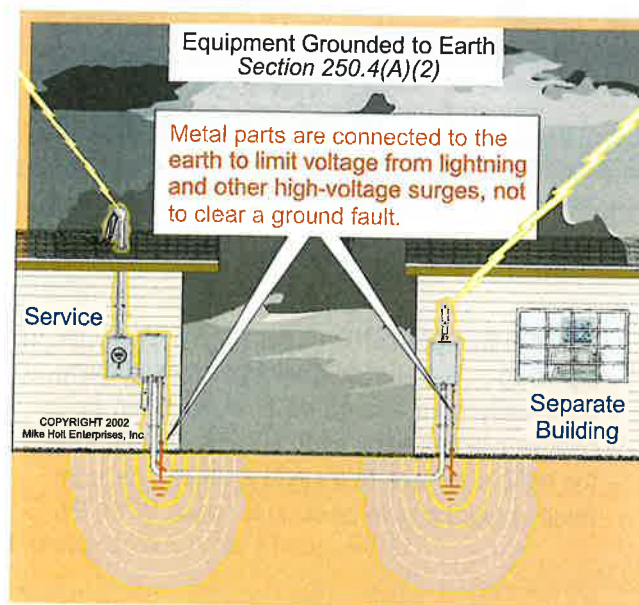

Figure 250-24
(2) **Grounding of Electrical Equipment.** To help limit the voltage imposed on metal parts from lightning, noncurrent-carrying conductive metal parts of electrical equipment in or on a building or structure shall be grounded to earth. **Figure 250-24**